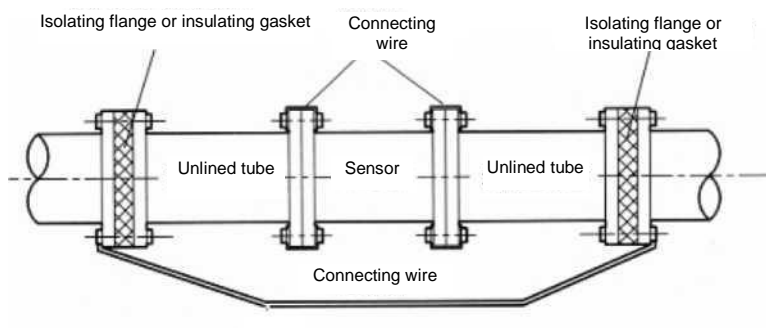

Figure 18: Sensor connection in an unlined tube
- Some systems, such as piping networks with cathode protection, will generate an interfering potential because the system potential is not completely ground potential. To eliminate such electrical interference, connect both ends of the unlined tube to the sensor as shown in Figure 18.